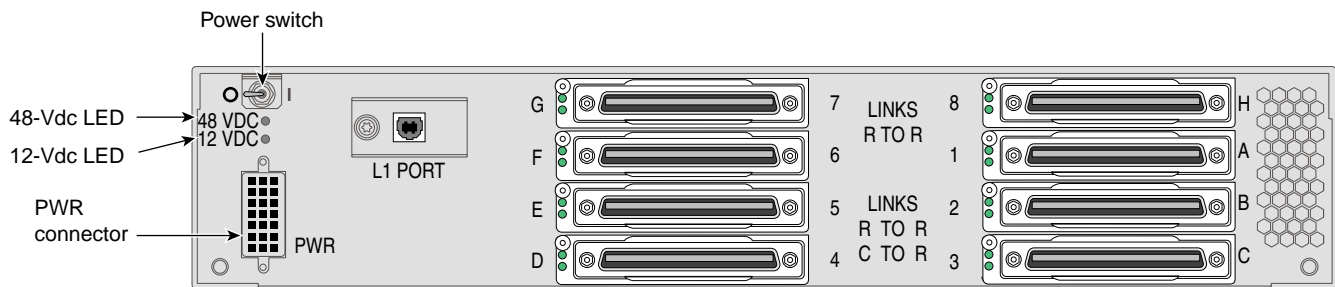

Figure 2-15 DC-powered NUMalink Module Power Switch
3. Ensure that the power switch on each DC-powered NUMalink and PCI expansion module that you want to power on is set to the On (1) position. The power switch is located in the upper-left corner of the module (refer to Figure 2-15). This switch enables the L1 controllers of the DC-powered NUMalink module and PCI expansion modules to power on after you turn on the circuit breaker of the PDU.